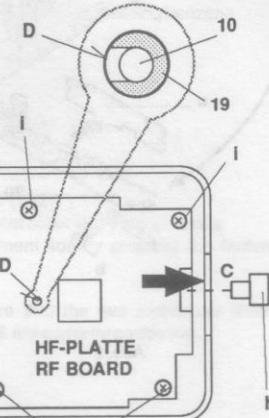

Fig. 6
- When refitting the RF board take care that the driver of the variable capacitor 19 engages with the cord pulley 10 (visible through the cutout of the printed circuit board D on the left of the variable capacitor, Fig. 6).